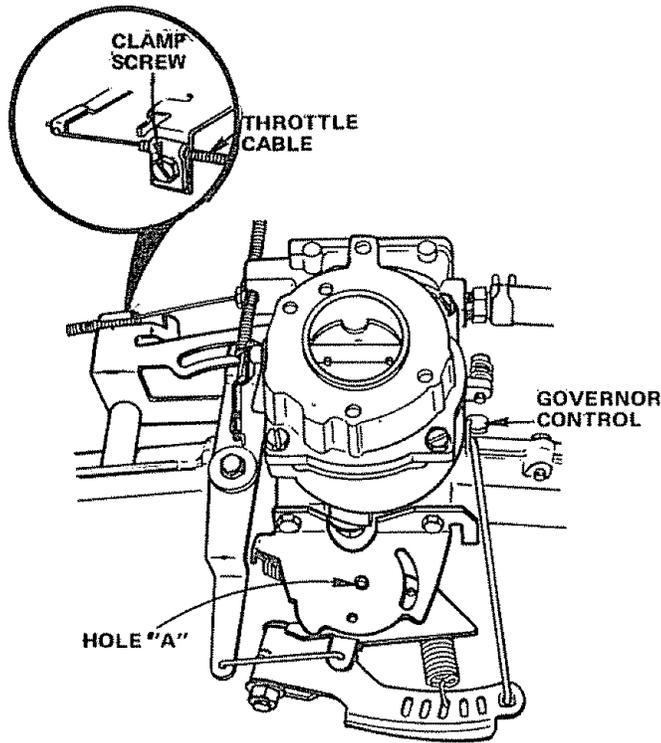

FIGURE 50
- b. Check that two holes "A" line up. If not, loosen Clamp Screw and adjust Throttle Cable until the two holes do line up (Fig. 50 - Inset).
HARD TO START Choked improperly, flooded Engine  Clogged Fuel Tank, Fuel Line or Fuel Filter Spark Plug fouled Defective Battery Defective Ignition or loose wiring Water in gasoline or old fuel  Improper Carburetor adjustment Poor compression	Place Throttle Control in fast position (Fig. 9) and run starter several times to clean out gas Remove and clean (Fig. 44) Replace Spark Plug and adjust gap (Fig. 42) Recharge or replace Check the wiring and Spark Plug Drain Fuel Tank and Carburetor, use fresh fuel and replace Spark Plug Make necessary adjustments (Fig. 50) Major engine overhaul
ENGINE MISSES OR LACKS POWER Engine overloaded Clogged Fuel Filter Clogged Fuel Tank Partially plugged Air Cleaner Improper Carburetor adjustment Dirty Air Screen Low oil level Spark Plug fouled, improper gap or wrong type Faulty ignition Poor compression Gasoline in oil Dirty Air Cleaner	Shift to a lower gear or reduce load Remove and replace (Fig. 44) Remove and clean Remove and clean (Fig. 36) Make necessary adjustments (Fig. 50) Clean Air Screen, Cylinder Fins (Fig. 41) and Muffler area Add or change oil (Fig. 35) Replace Spark Plugs and adjust gap (Fig. 42) Check Spark Plugs and for any loose wires Major Engine overhaul Drain Engine oil and refill Remove and clean (Fig. 36)
ENGINE OVERHEATS Dirty Air Screen Low oil level Dirty Engine Partially plugged Muffler Improper Carburetor adjustment	Clean Air Screen (Fig. 40) Add or change oil (Fig. 35) Clean Cylinder Fins, rotating Screen and Muffler area Remove and clean Muffler (Fig. 40) Adjust Carburetor (Fig. 50)